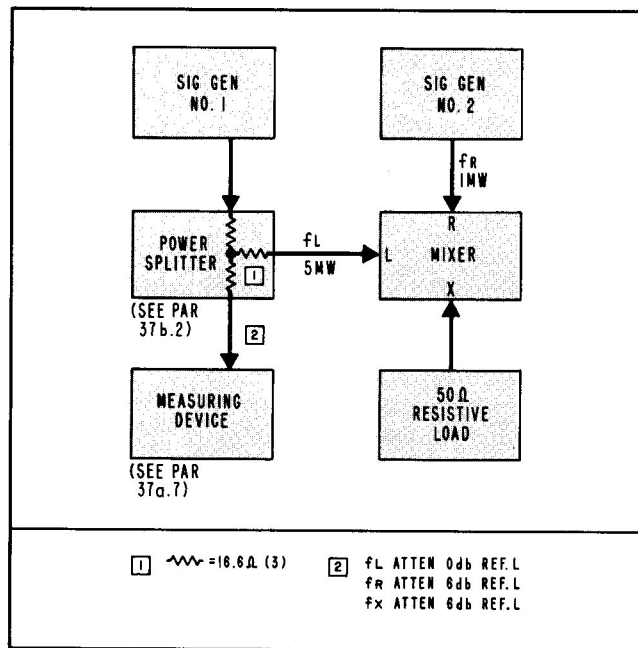

Figure 11. Test Setup — Mixer Balance
2. Connect Signal Generator #1 to Power Splitter shown in Figure 11. The values for the Power Splitter resistors are chosen so a 50-ohm load is presented at any terminal when the other two terminals are terminated with 50-ohm loads.
9. Connect a Measuring Device such as the one described in Paragraph 37 step a 7, to the Power Splitter output as shown in Figure 11.